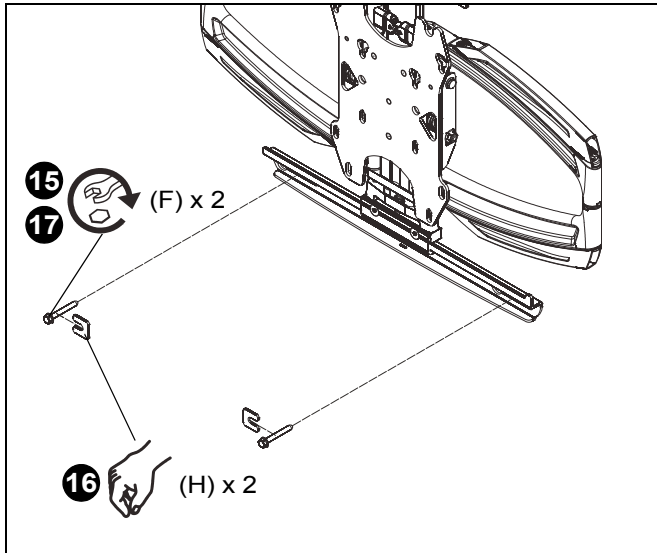

Figure 10
15. Loosely install two 5/16 x 2 1/2" flange head lag screws (F) through lower wall rail on main assembly and into concrete anchors. (See Figure 10)
16. Place two installation spacers (H) over two flange head lag screws (F). (See Figure 10)
17. Tighten two screws (F) to secure main assembly (M) to wall. (See Figure 10)